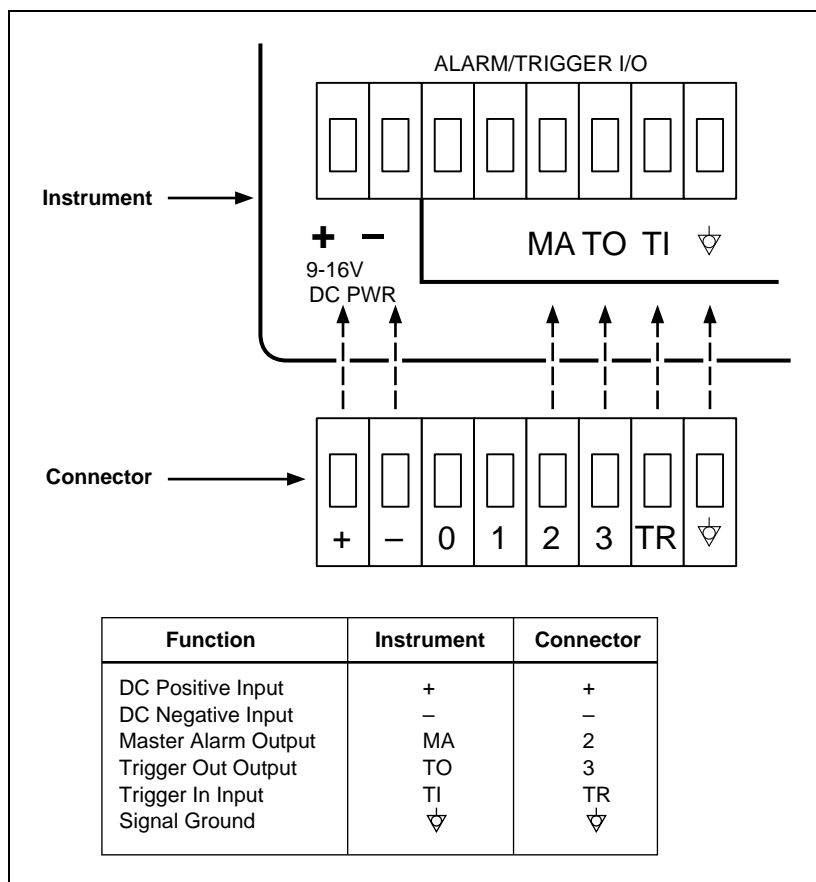

Figure 2-6. ALARM/TRIGGER I/O Connector
The eight-terminal ALARM/TRIGGER I/O connector (Figure 2-6) on the rear panel of the instrument provides connections to Trigger In (TI), Trigger Out (TO), and Master Alarm (MA) I/O lines along with a common ground connection. (See the "Trigger Input," "Trigger Output," and "Master Alarm Output" discussions in Chapter 1 for additional information.) The dc power connection is also on this connector. (See "DC Power" above.).